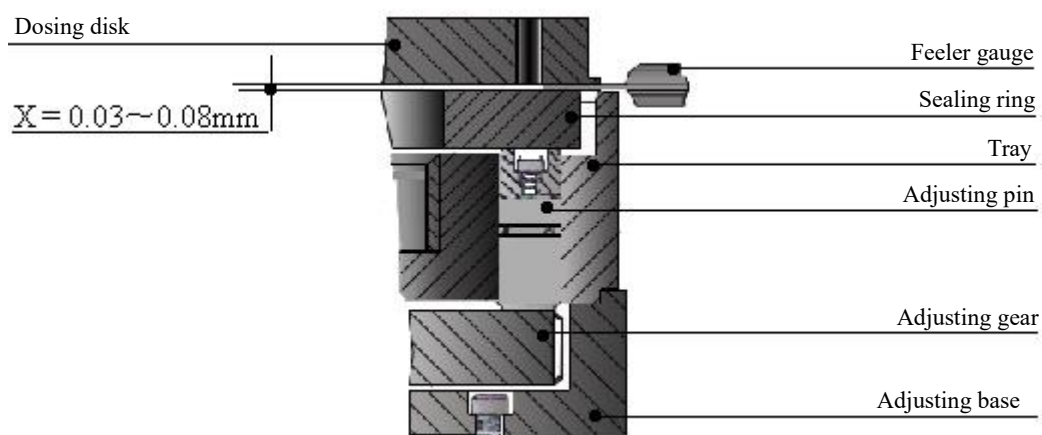

Fig. 16 Structure of Dosing Disk and Sealing Ring
5.2.5 Adjustment of the clearance between dosing disk and sealing ring (refer to Fig. 16, 17)